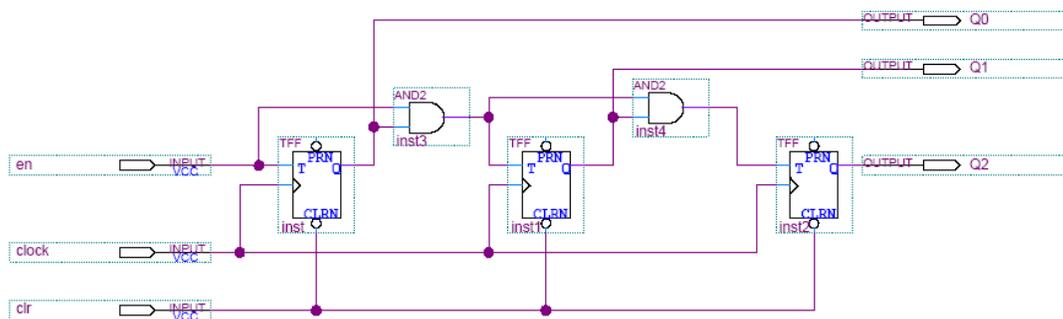
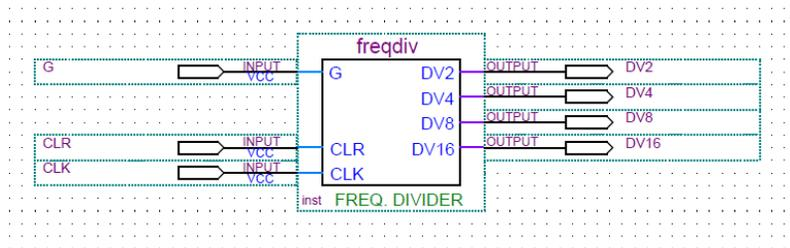

Figure 2
Figure 5
The input of each T flip-flops is set to 1 to produce a toggle at each cycle of the clock input. For each two toggles of the first cell, a toggle is produced in the second cell, so its output is at half the frequency of the first. The output of the third cell is 1/8 the clock frequency. The same device is useful as a counter. Figure 2 shows schematic design for three-bit frequency divider by using three T-type flip-flops.
1. Write a *VHDL* file or create a *BDF* file that defines a **8-bit counter (8-bit frequency divider)** by using the structure depicted in Figure 2 (bdf) or extension from Figure 3 (vhdl) or LPM freqdiv (Figure 5), and compile the circuit. What is the frequency relation between the clock and eight outputs from eight *T-type flip-flops*, respectively?